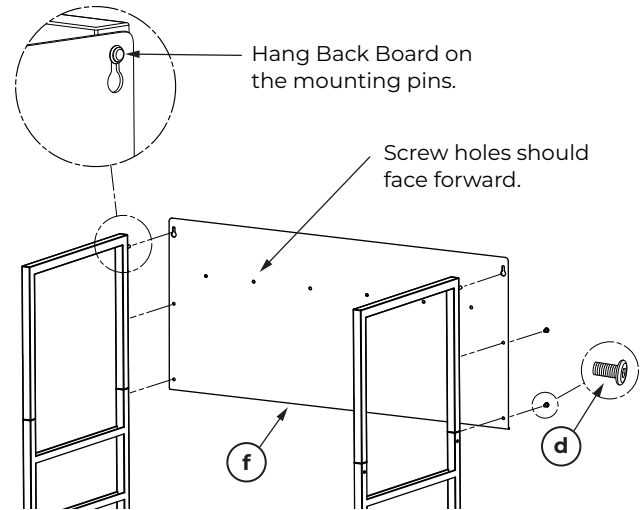

Figure 4
- Hang the Back Board (f) on the mounting pins. Line up all holes and install 2 Allen screws (d) on each side of the Back Board (f). Tighten all 4 Allen screws (d). See Figure 4.